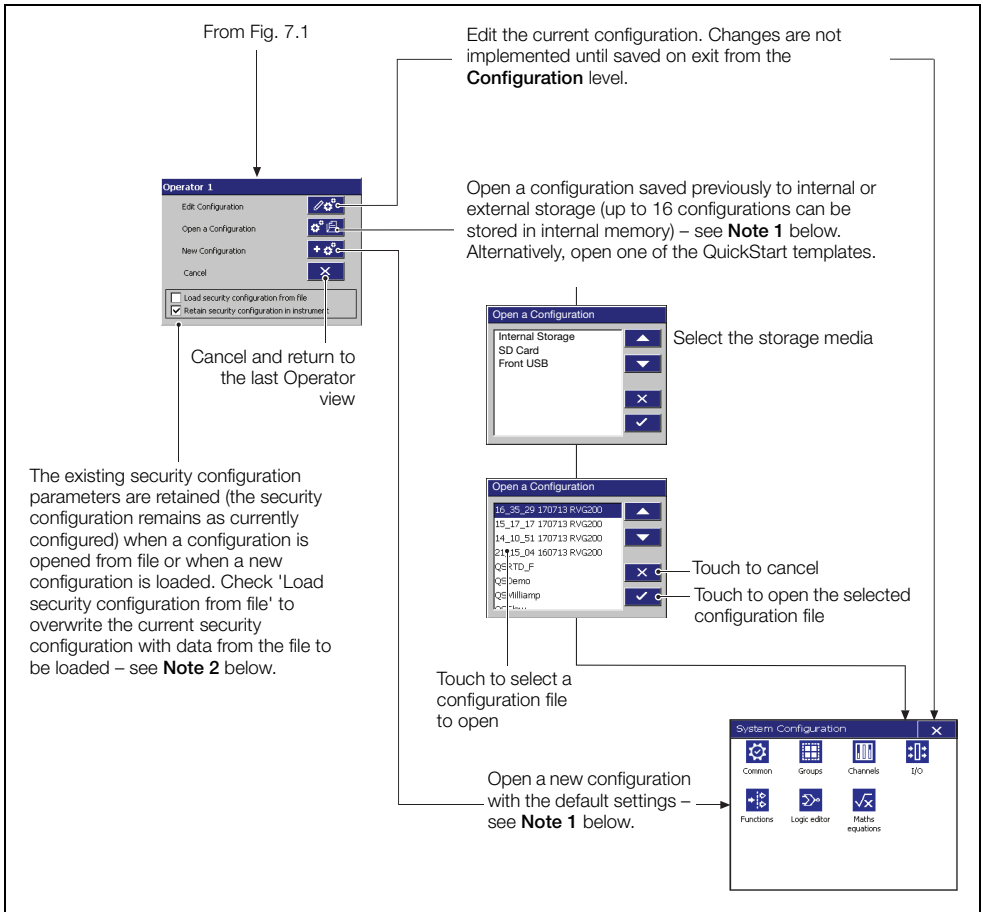

Fig. 7.2 Accessing the configuration level (continued)
2. Open the saved configuration – see see Fig. 7.2, page 61.